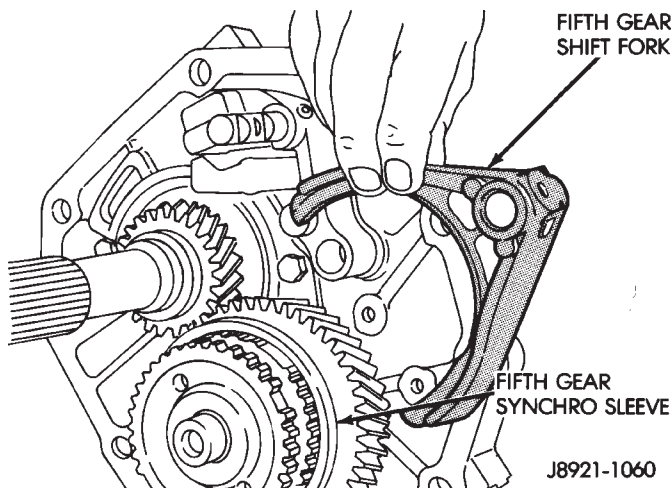

Fig. 106 Fifth Gear Shift Fork Installation
(10) Position fifth gear shift fork in synchro sleeve (Fig. 106).